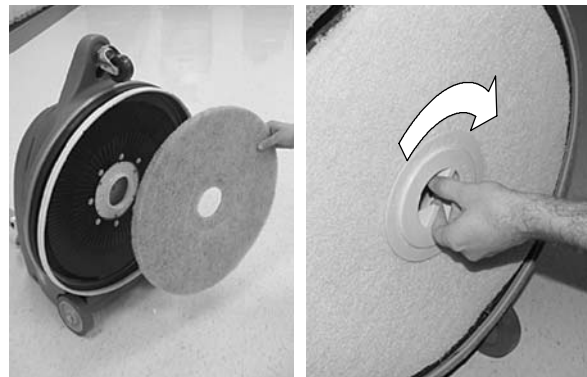

FIG. 2
4. Remove the plastic centerlock ring from the pad driver. Position the pad on the pad driver and replace the ring securely by turning it clockwise (Figure 2).